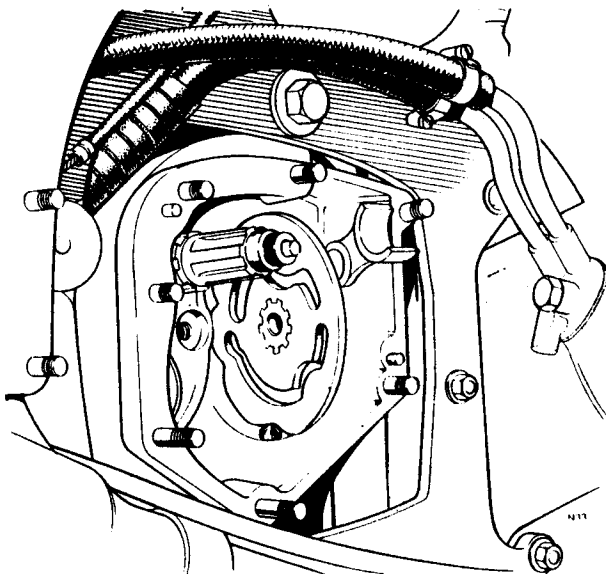

Fig. D2 Location of camplate to index plunger. Knuckle end of quadrant is aligned to top front cover stud
- 5 Lift the knuckle end of the quadrant until the top inside radius is directly in line with the top front cover stud (see Fig. D2), fit the camplate and sealing ring, engaging the teeth of the quadrant and camplate so that the notched edge of the camplate is towards the gearbox sprocket and the blank smooth edge towards the gearbox inner cover, the last notch at the bottom engaging with the camplate index plunger (see Fig. D2).